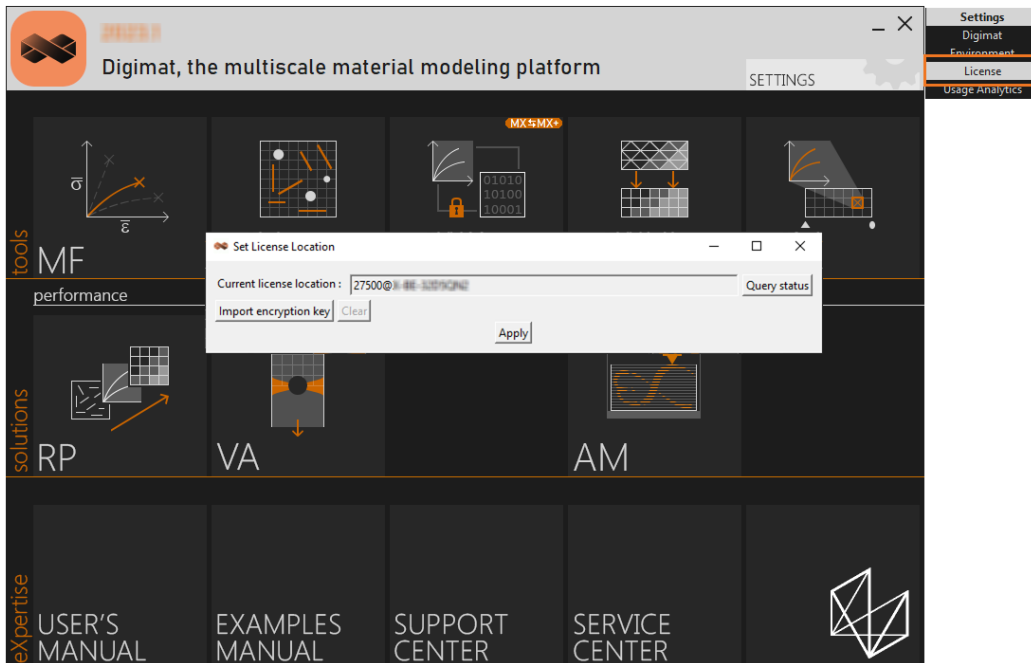

Figure 2-32 Import private encryption key using Digimat platform.
- Go to the Digimat platform to have access to the license management functionalities (see Figure 2-32). There you will have access to a button named **Import encryption key**. Click on the button, select your `.priv` file, click **OK** and then click the **Apply** button. Perform this procedure as many time you have received different encryption key files.